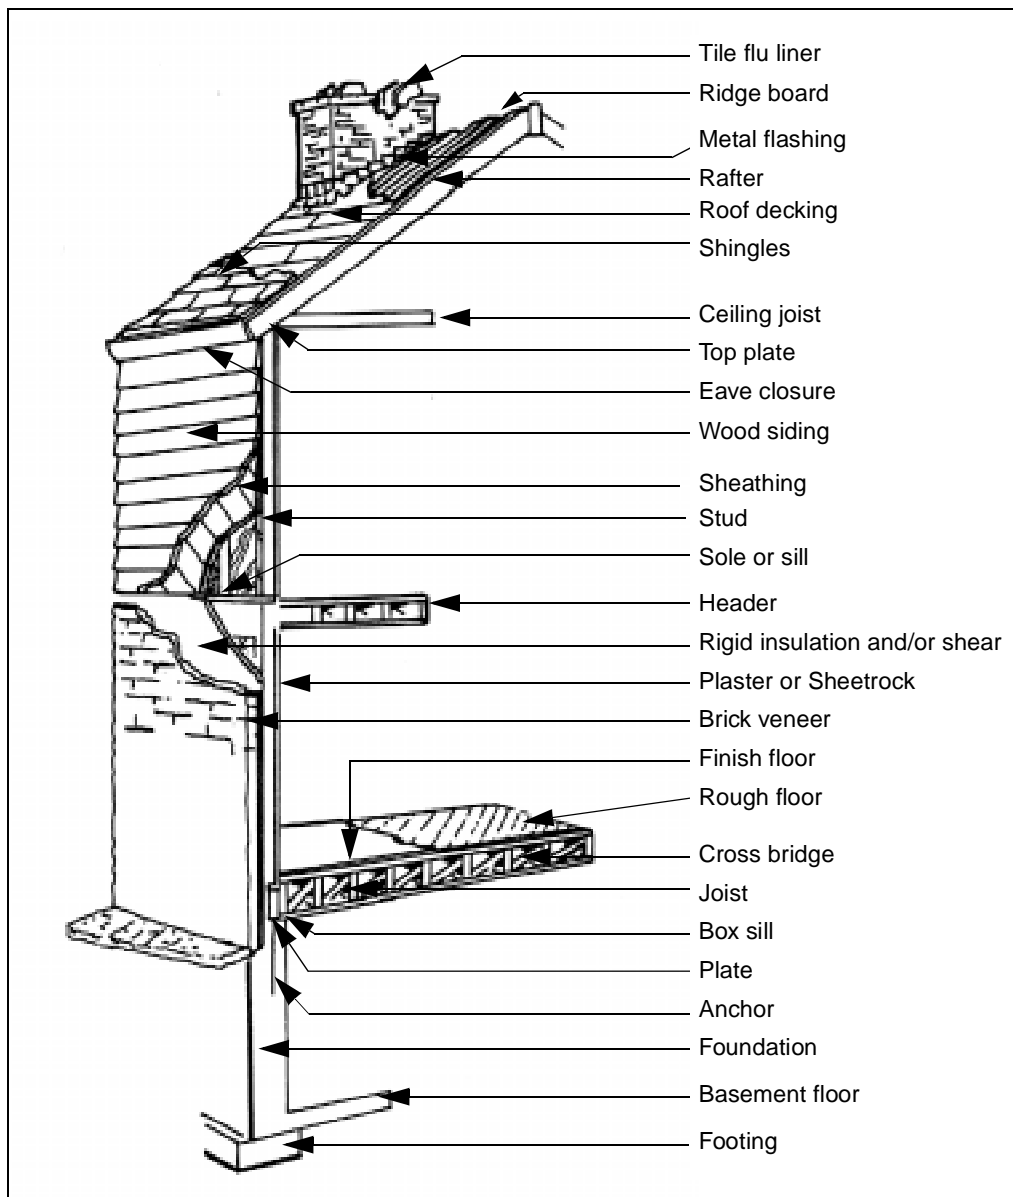

Figure 8-2. Arrangements of structural components
**8-17.** Most modern buildings have continuous foundations of concrete, brick, or stone. The foundation wall that supports the frame construction may extend above the ground. Figure 8-2 shows arrangements of structural components.